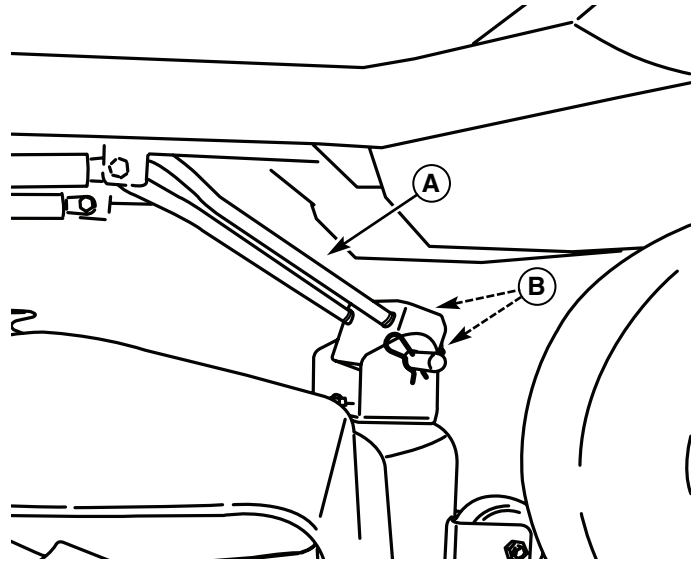

Figure 52. Front-to-Back Leveling
2. The front mower hitch rod (A, Figure 52) is used to adjust front-to-back leveling. To raise or lower the front of mower deck, adjust the front jam nuts (C) on both sides of the hitch rod (A) to adjust the deck level.